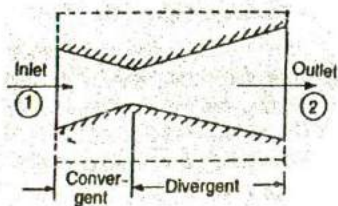

Fig. 3.32. Convergent-divergent nozzle.
4. **Nozzle.** A nozzle, as shown in Fig. 3.32, is a device which increases the velocity or kinetic energy of the working substance at the expense of its pressure drop. The nozzle is insulated so that no heat enters or leaves the system (i.e. $q_{1-2} = 0$). In other words, the flow through nozzles is considered adiabatic. Further, the system does not deliver any work i.e. $w_{1-2} = 0$ and there is no change in potential energy, i.e. $(pe_2 - pe_1) = 0$.